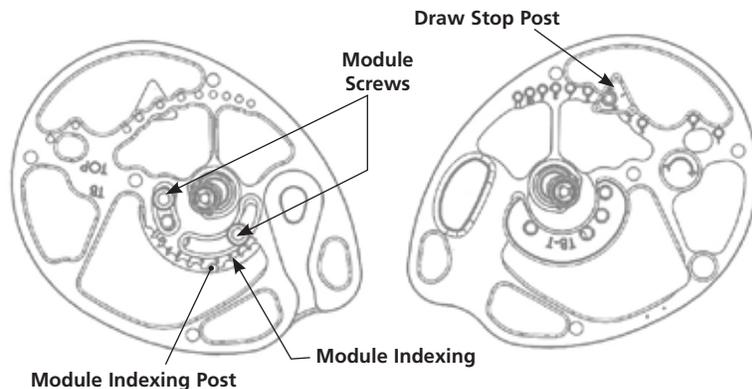

Figure 1: OverDrive Binary Draw Length Adjustment
Refer to Figure 1 and Chart 1
10. Your Bowtech Fanatic is equipped with a draw stop that features adjustable let off (see figure 1). The let off on your bow can be adjusted easily to your preference by simply choosing "H", "M" or "L". The "H" or high setting will give you maximum let off and extended valley. The "L" or low setting will shorten the valley to its shortest setting and decrease effective let off for those archers that prefer a back tension release or similar style release method. The "M" setting is a comfortable balance between the high and low settings. To set let off properly, both draw stops need to be in the same setting. You will need a straight edge to ensure that both draw stops are adjusted exactly to ensure a solid wall at full draw.